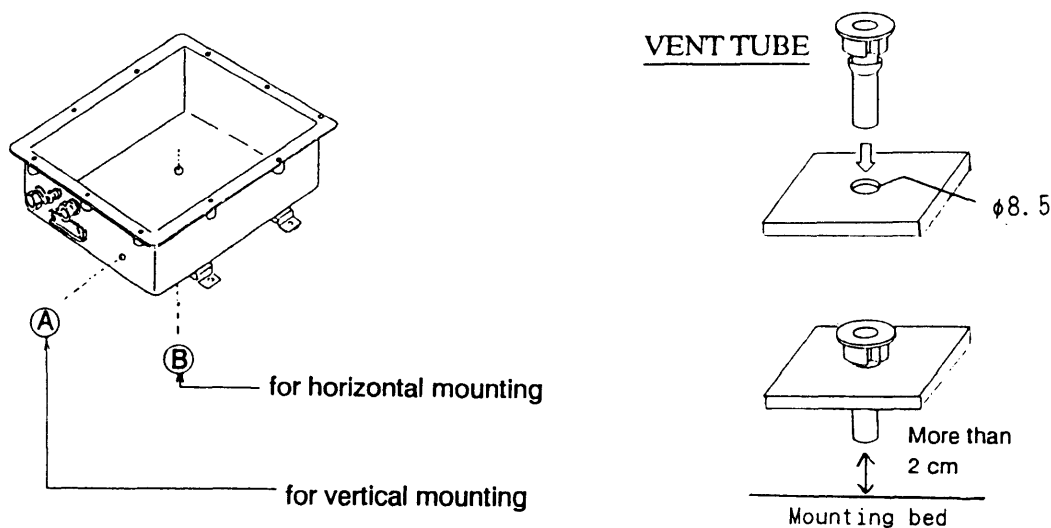

Fig. 3-21 Location of Vent Holes in the Antenna Coupler
Ventilation must be provided to prevent moisture from being drawn into the enclosure during atmospheric pressure changes and to allow trapped humid air to escape. Two vent holes are provided on the unit (see Figure 3-21), one at the rear and one at the bottom. A vent tube is mounted at the position ① shown below. For horizontal installation, remove the vent tube from ① and fix it to ②. Cover ① with the blind seal (supplied), from inside the coupler. For ceiling mount, make a hole ($\phi 8.5$) on the front panel and mount the vent tube. These measures should be done before mounting the unit.